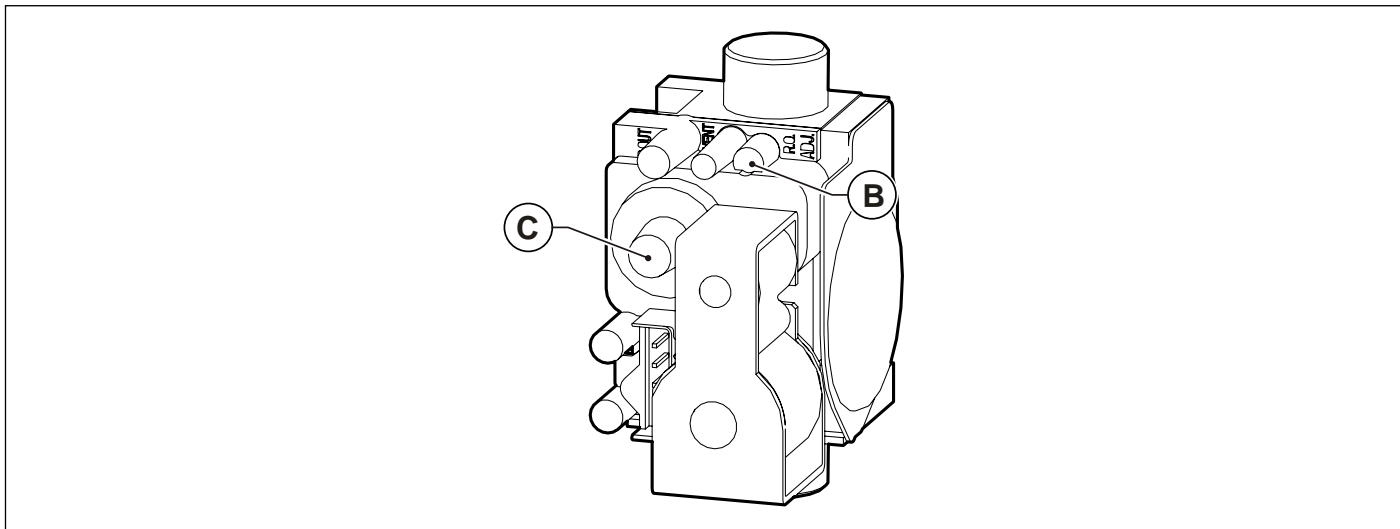

Fig. 36 Adjusting CO₂ value
- Set flue gas CO2 content by turning the ratio adjuster **B** (see Fig. 36 Adjusting CO2 value) and ensure that reading falls within the limits of Tab. 10 Limits to be set for TSP parameters and default values in relation to boiler type (TSP0) - I on page 54. Let boiler flue cleaning function on and continue with the next point "Minimum heating output adjustment" .
- Set flue gas CO2 content by turning the offset control **C** (see Fig. 36 Adjusting CO2 value) and ensure that reading falls within the limits of Tab. 16 Flue CO2 content.